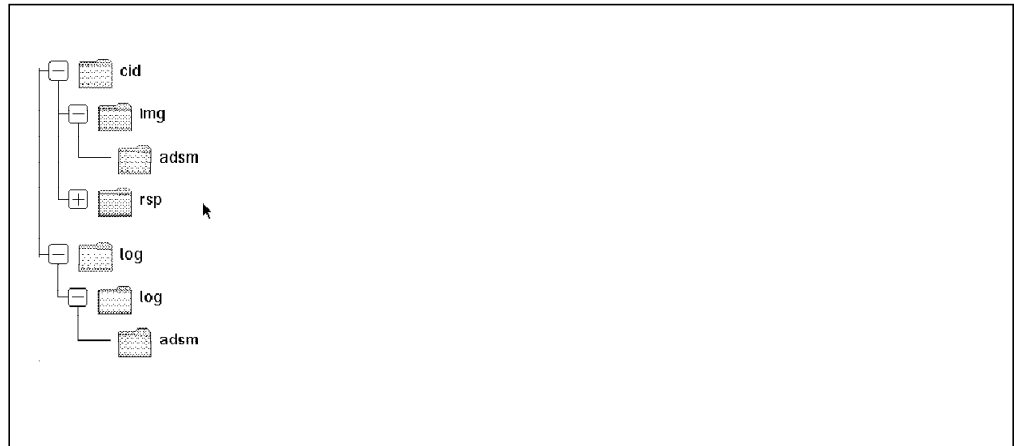

Figure 114. Directory Structure
- This machine should be a machine with enough space to store information for the logs and software package images. A directory structure needs to be created and it should look something like Figure 114. The CID preparation doesn't take care of creating the directory structure. It will only use the information stored there.
- CID directory - This is the same directory that we placed in the NFS EXPORTS file in the previous section. The structure of the directory is shown in Figure 114 on page 87 and below: